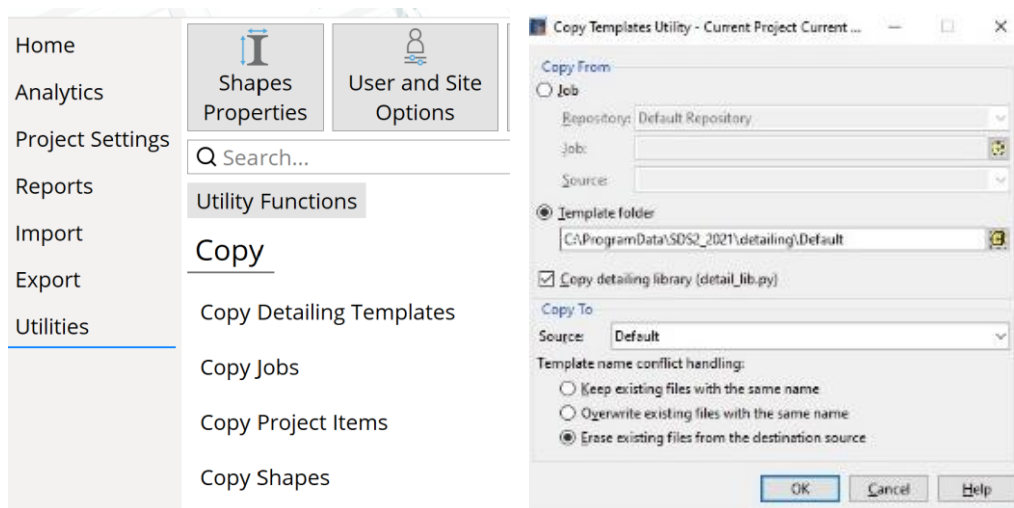

Figure 23. Copy Templates Utility Screen
- 4) On the *Copy Templates Utility* screen (see Figure 23):